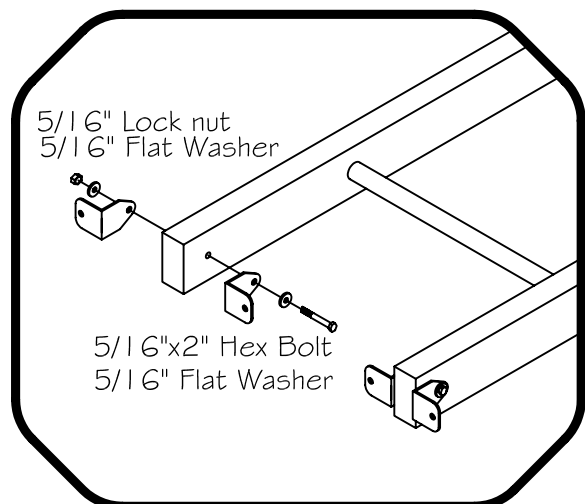

FIG. 14
Step 3: Attach (2) L-brackets to the end of each Top Ladder Rail with 2" Hex Bolts and hardware shown. (See Fig. 14)